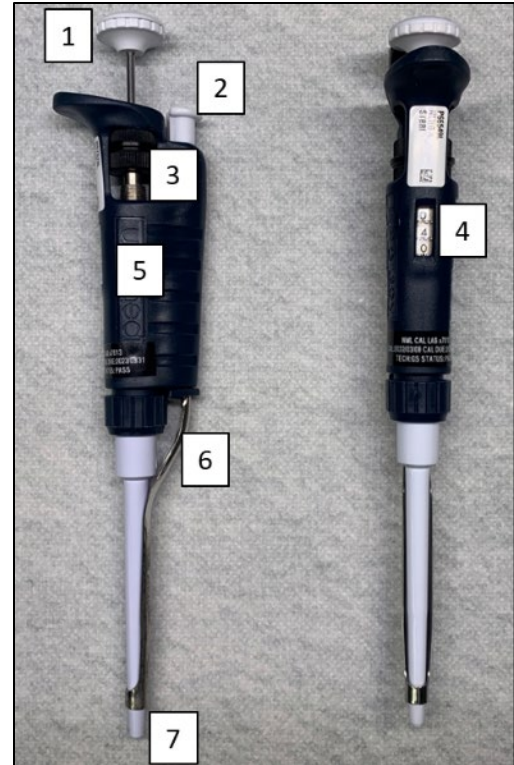
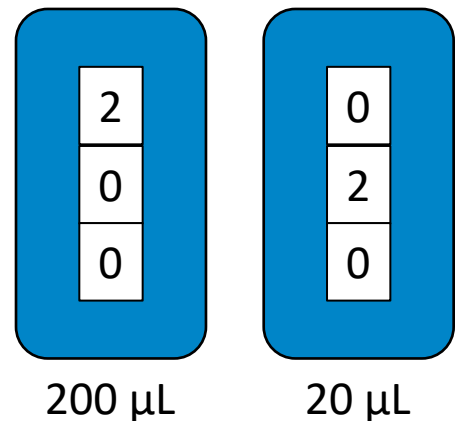

Figure 1. Components of a micropipette
Figure 2. Display of the minimum and maximum volumes on a P200 micropipette
Micropipettes are precision instruments used to transfer small volumes of liquids (< 1 mL) (Figure 1.). These pieces of equipment may be easily damaged if used incorrectly.
The volume display (Figure 1., #4) is made up of three vertically stacked numbers (Figure 2.). These numbers are read from top to bottom.
1. Using your dominant hand to hold the pipette by its body (Figure 1., #5), fit the tip onto the pipette by pushing the tip holder (Figure 1., #7) into a pipette tip with a slight twisting motion.
2. Press the push button (Figure 1., #1) to the first position/stop.
7. Remove the tip from the newly filled tube and then slowly guide the push button back to the starting position. Close the tube. Eject the used tip into a waste container by firmly pressing the tip ejector button (Figure 1., #2).